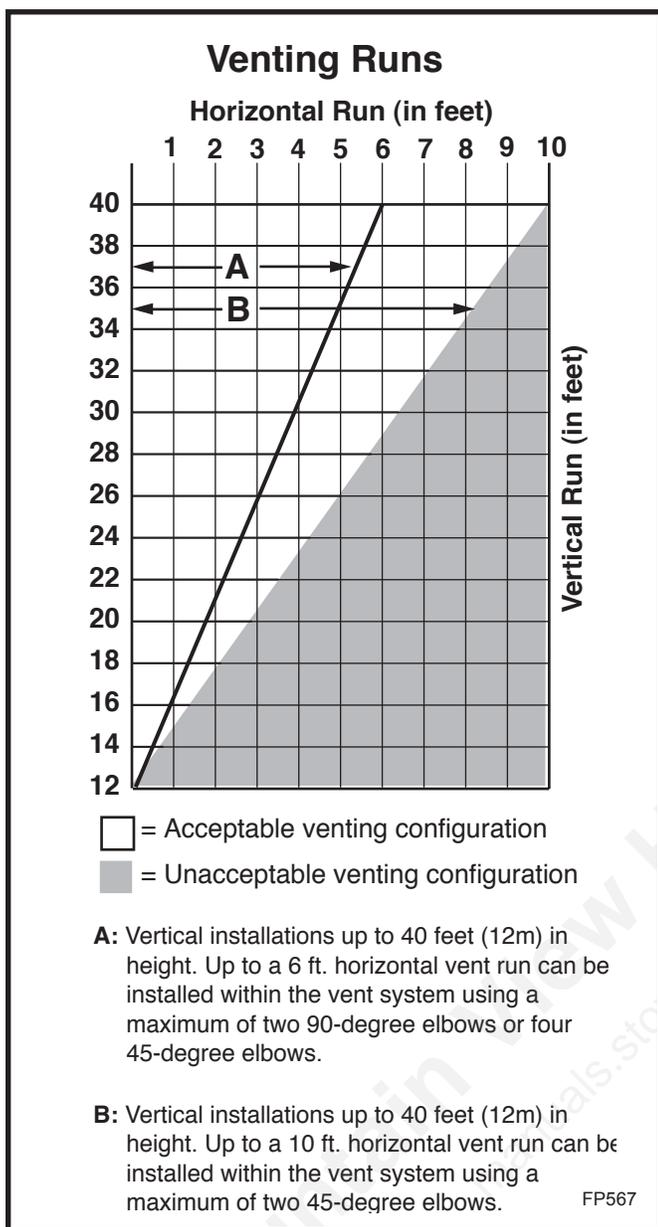
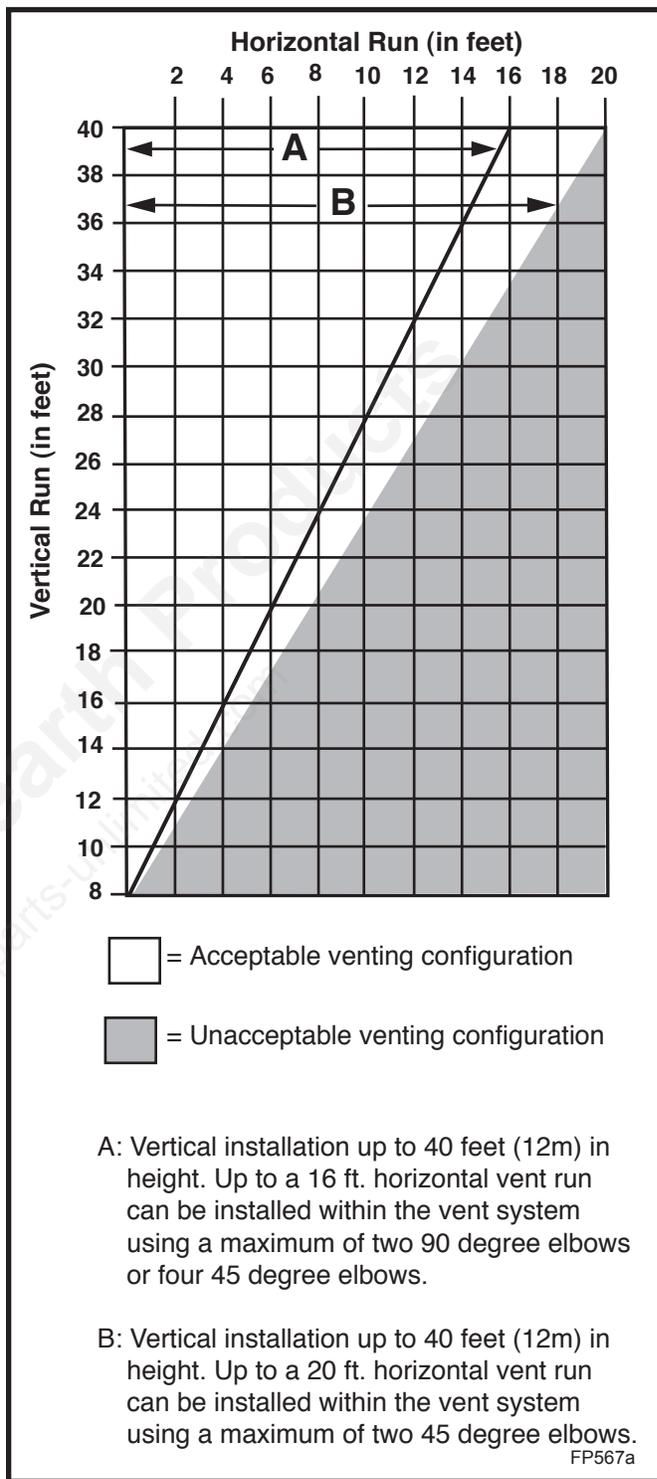

Fig. 10 Venting configurations.
Fig. 11 Venting configurations when installing 36GSKBB.
- Elbow requirements allow a maximum of two 90 degree elbows or four 45 degree elbows per installation. (Two 45 degree elbows = One 90 degree elbow.) See venting chart for proper elbow offset runs. Use Figure 10 for GBR36 installations when not installing the GSKBB Single Panel Glass Door. Use Figure 11 for GBR36 installations when installing the GSKBB Single Panel Glass Door.